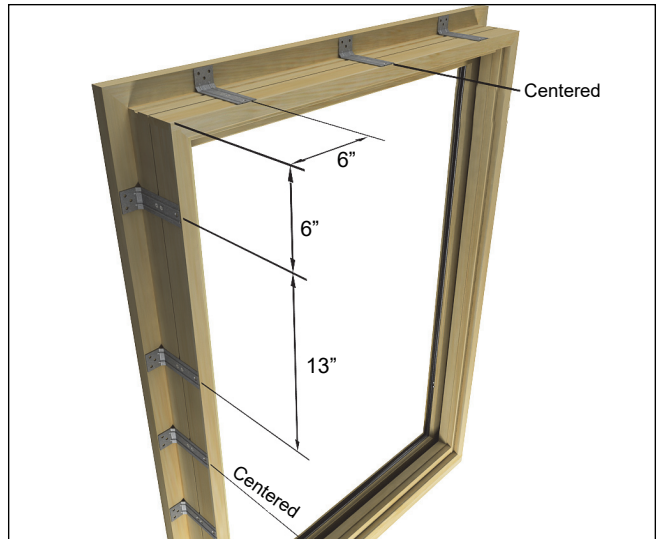
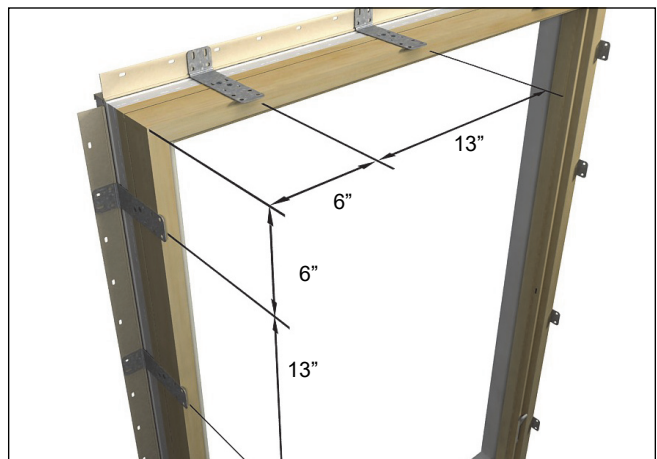

Figure 2 Non-wrap style bracket shown.
Figure 3 Wrap style bracket show
2. Make sure you follow all steps for preparation regarding sealant application, especially on wood units. Place brackets 6" (152) from each corner, at the center of each jamb, head jamb and sill, with remaining brackets no more than 13" (330) on center around the perimeter. See figure 2 and figure 3.